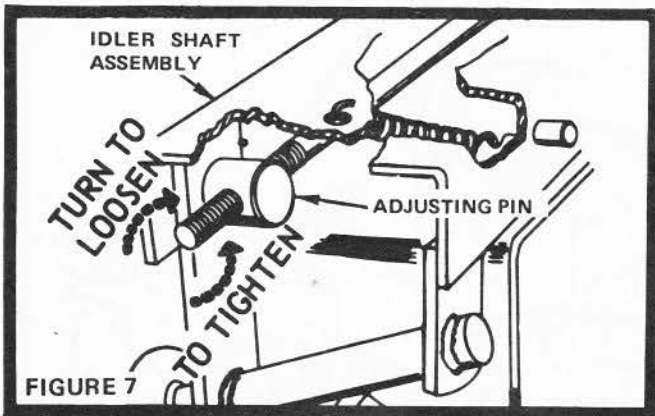

FIGURE 7
1. Adjust belt by turning Adjusting Pin (Fig. 7) counterclockwise to tighten; clockwise to loosen. Engage Mower Clutch Control ("ON" Position). Belt is properly adjusted when Belt can be squeezed together with thumb and fore finger (without undue pressure) midway between Engine Pulley and Idler Sheaves. After first 2 hours of mowing, recheck Belt for proper tension.